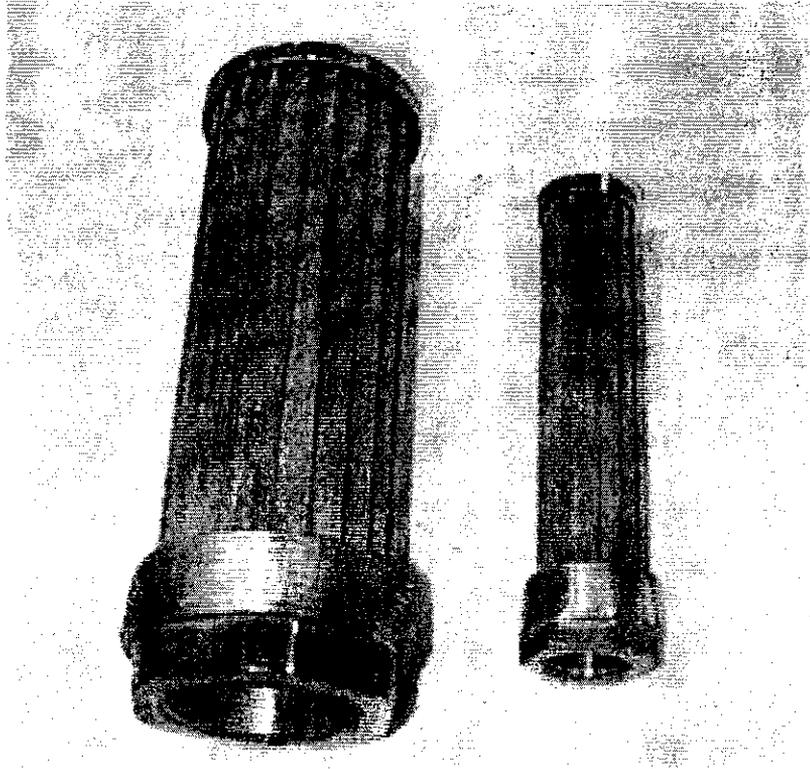

FIGURE 45
5. Clean any dirt and grease from around the tank strainers before attempting to clean or replace them. Remove the hydraulic tank strainers, clean and replace (figure 45).